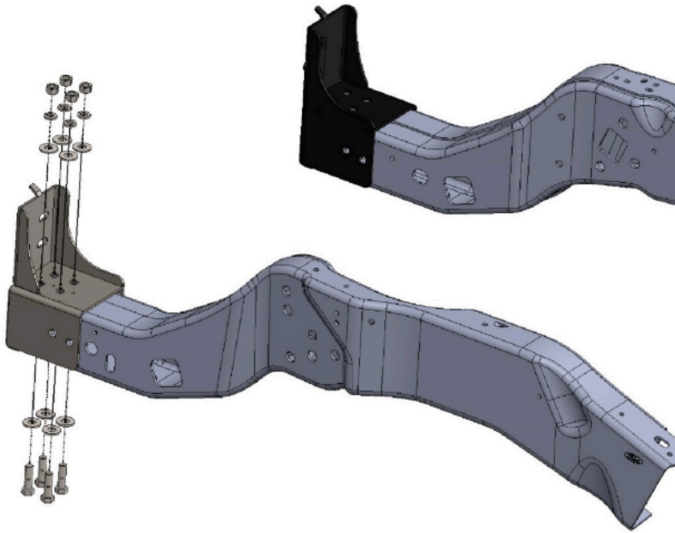

Figure 33
26. Using a 3/4" socket wrench and combination wrench, install the provided bumper mounting brackets (Part#: DS-23039 / PS-23040) onto their respective frame rail end with the provided 1/2" hex head cap screws, flat washers, lock washers, and hex nuts into the top four (4) holes. Figure 33